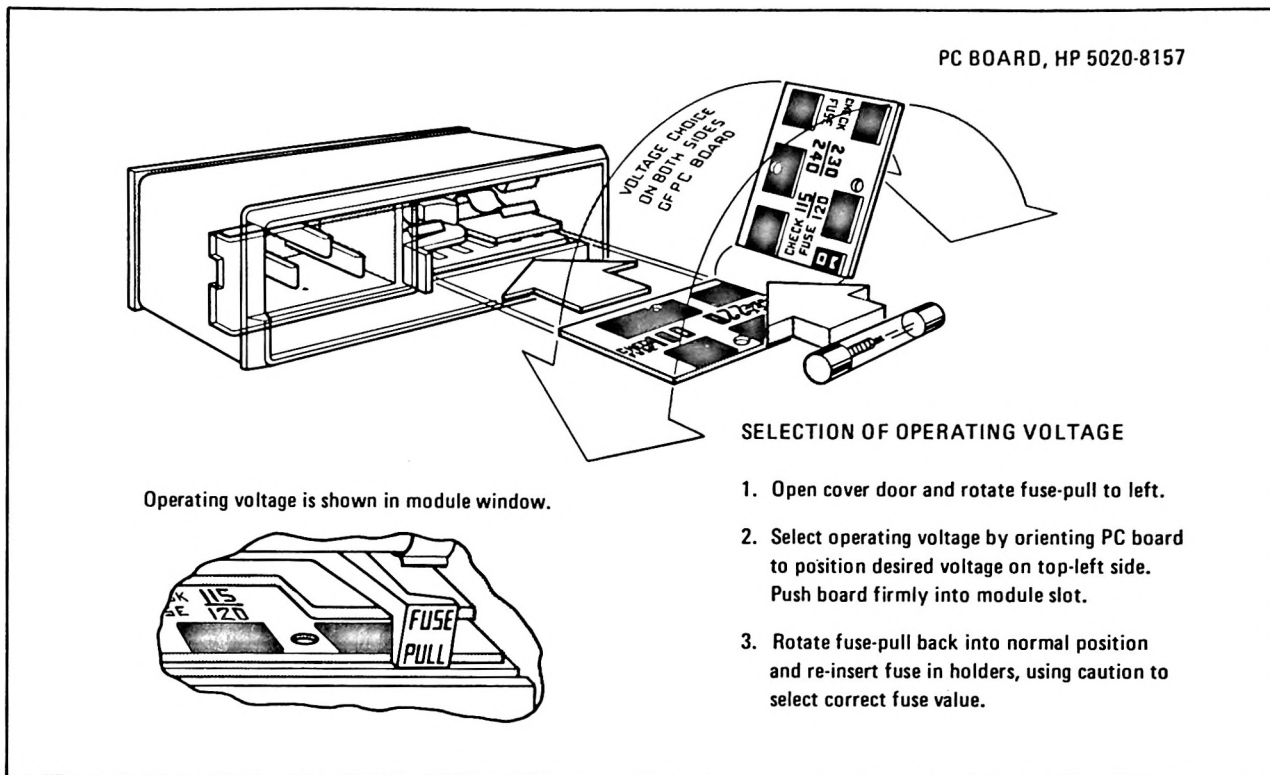

Figure 2. Line Voltage Selection
21. Figure 2 provides instructions for line voltage and fuse selection. The Line Voltage Selection Card and fuse are factory installed for 120 Vac operation.
42. **Rear Panel Fuse Replacement.** The main ac line fuse is located on the rear panel next to the power cable jack (see Figure 2). To remove the fuse, first remove the line power cable from its jack. Slide the fuse compartment cover to the left, then pull the handle marked FUSE PULL and remove the fuse.